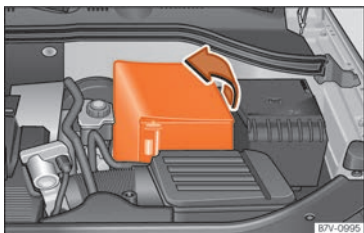

Fig. 299 In the engine compartment: remove the lid from the vehicle's battery.
- *In the case of a cover:* remove the cover by pulling it to the side »» Fig. 299.